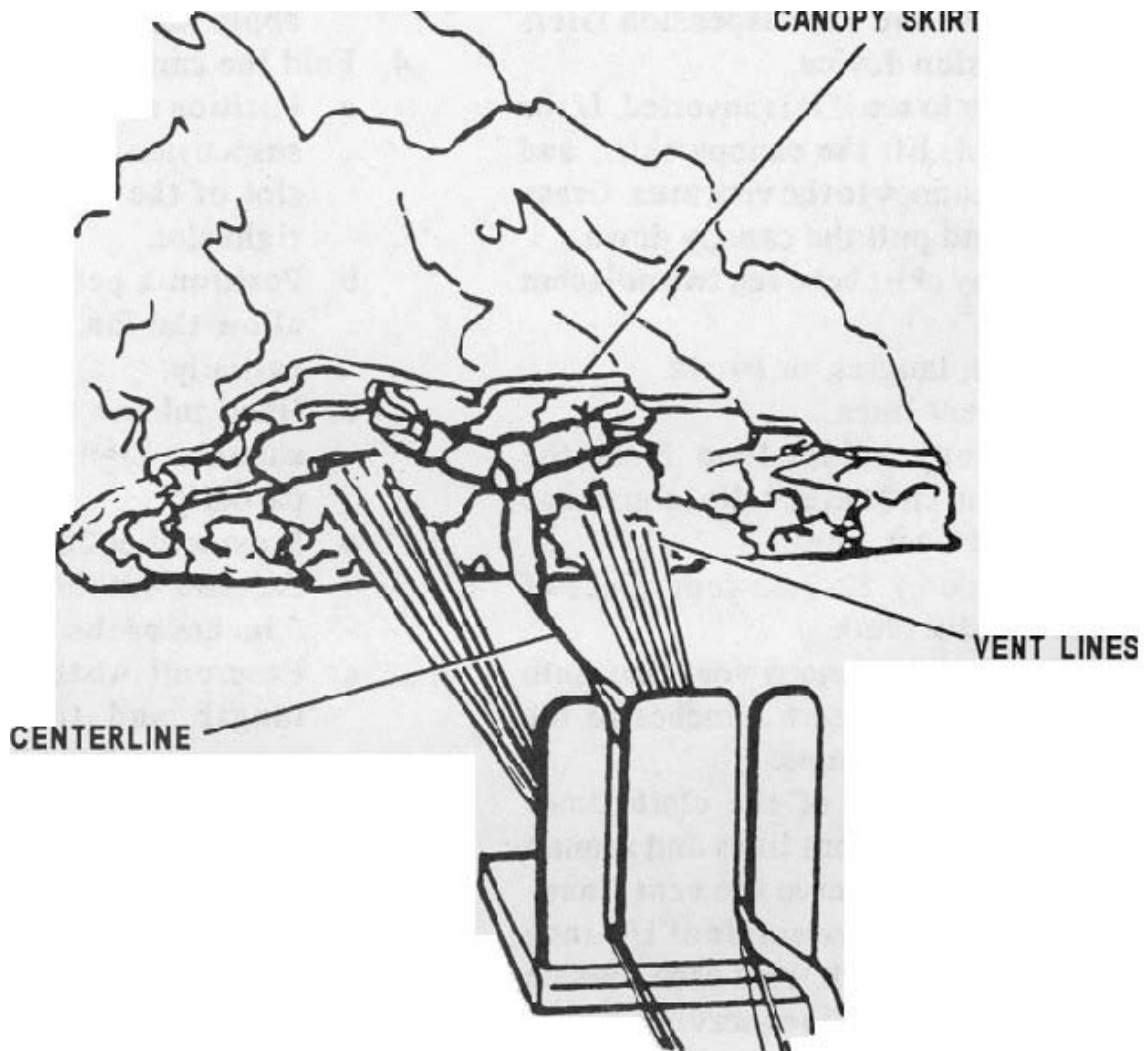

Figure 3-29
- n. Place the centerline in the right slot of the line separator. (See Figure 3-29)
- e. Have soldier 1 stop pulling on the centerline when the served portion of the canopy vent lines becomes aligned with the canopy skirt. (See Figure 3-29)